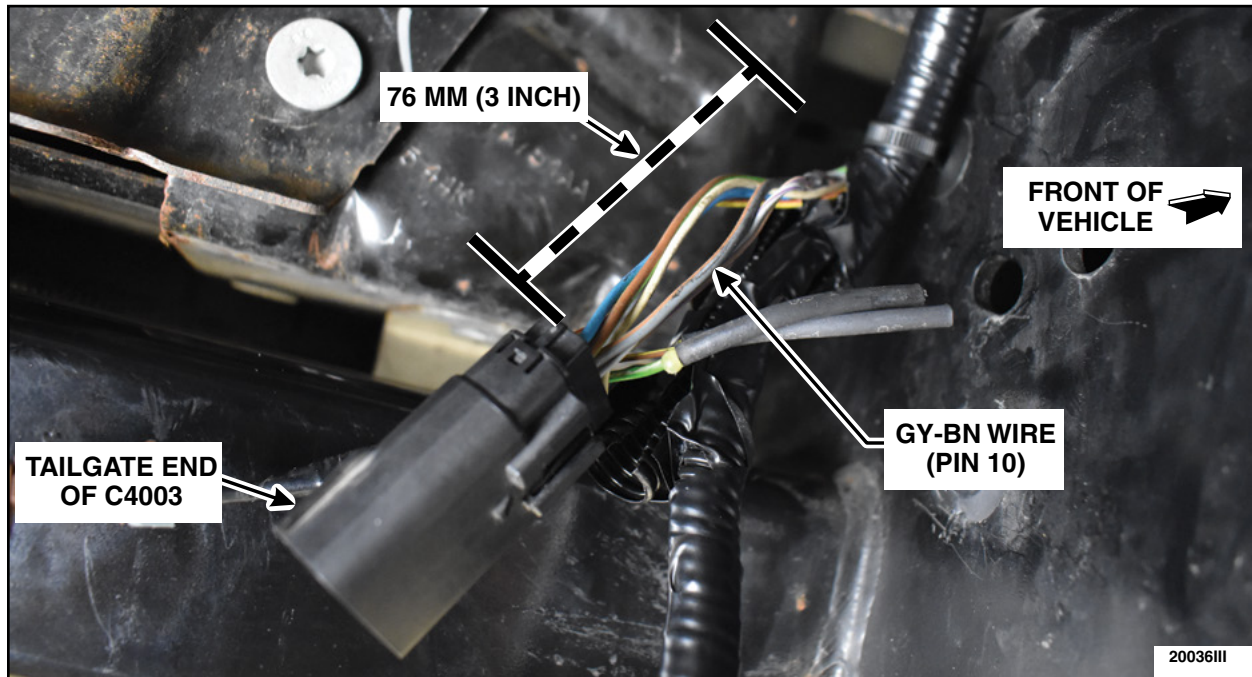

FIGURE 69
93. Remove 76 mm (3 in) of tape and convolute of the male end of C4003 to expose the wiring. Locate the Grey-Brown (GY-BN) wire in C4003 (pin 10). See Figure 69.